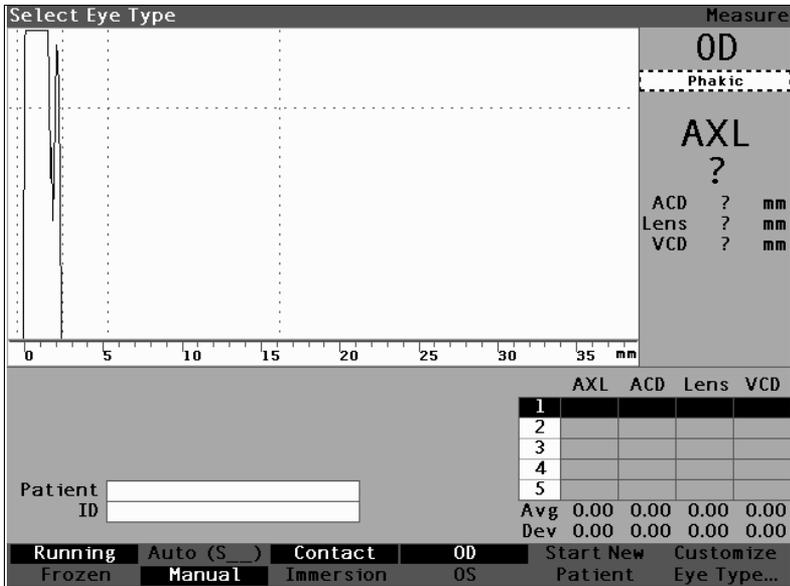

Figure 112 Eye Type Active
- Press the knob or the  $\sqrt{\quad}$  button, to activate the field, indicated by the dashed border. (See Figure 112 below.)